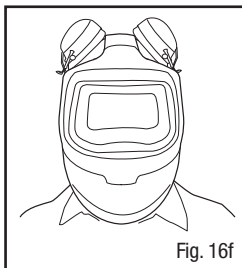

Fig. 16f
- **Parked:** Cups may be rotated out of the way onto the top of the headgear (Fig. 16f) if the headgear shell is clean and free of contamination. Care should be taken to ensure the ear cushions stay clean.